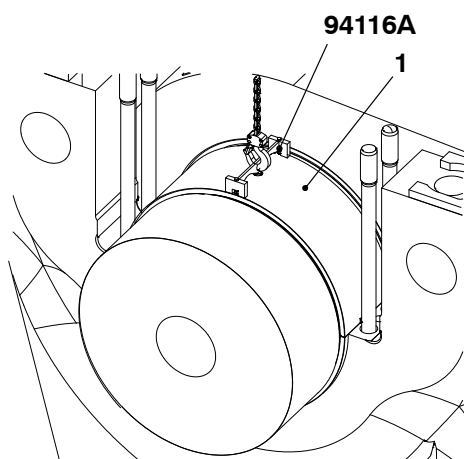

Fig. 20
11) Attach the lifting tool (94116A) to the bearing shell (1, Fig. 20).